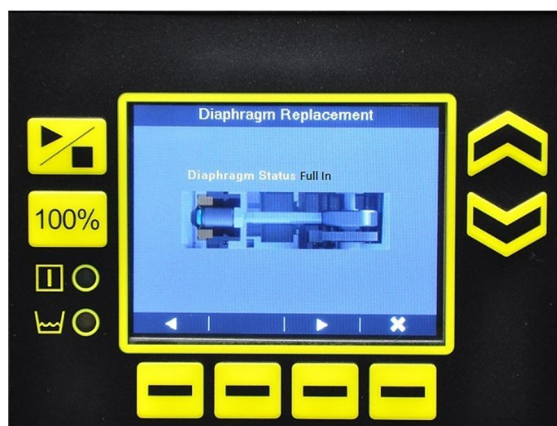

Figure 31: Diaphragm Replacement (Full In)
12. Press **Right**  to fully retract the diaphragm to the full in position (Figure 31).